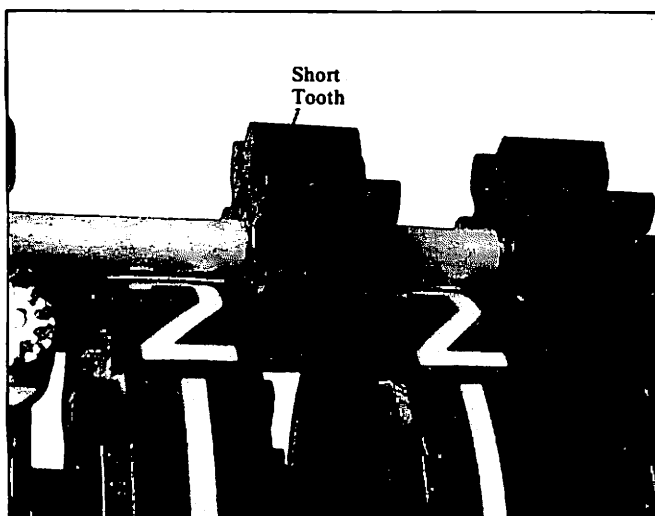

Figure 25. Pinion Positioning.
- c. Place pinions, with short finger up, in between each wheel as shown in Figure 25.